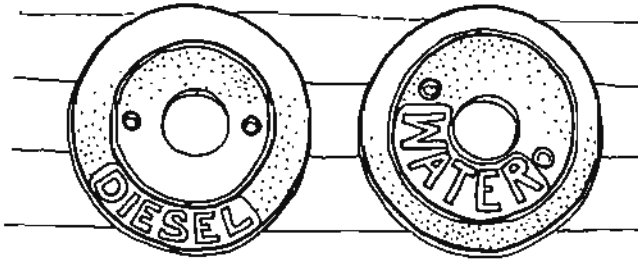

Figure 8-4. Deck flanges should be marked to avoid mistakes in filling tanks.
- * Know which deck flanges are for oil, and which are for fresh water. To avoid mistakes, mark fluid types on filler flanges (Figure 8-4).